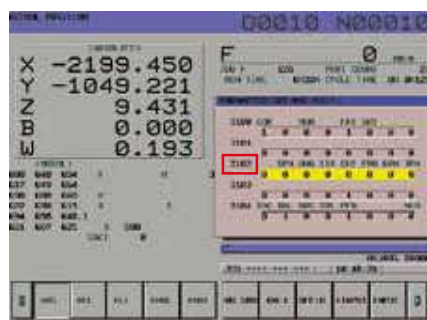
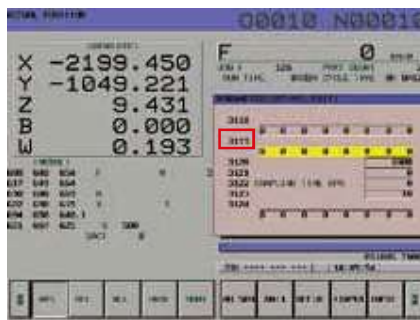
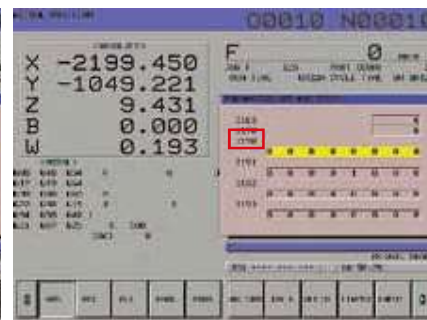

Fig. 7
Fig. 8
Fig. 9
9. Press chapter selection soft key "NO.SRH" button. Then you will see 3102 as Fig. 7; 3119 as Fig. 8; 3190 as Fig. 9